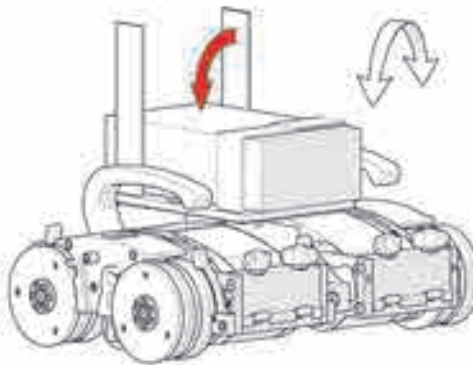

Figure 4-139 Velcro straps to hold item in place
3. Pull the Velcro straps tight around the item on the backpack (see Figure 4-139 on page 195).